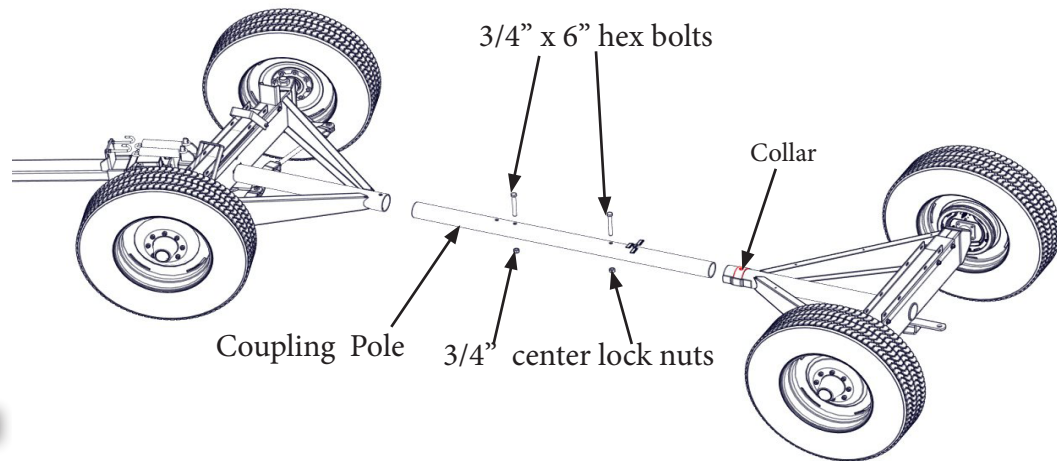

Fig. 1
- Using (4) 3/8" x 1" SF bolts and nuts, attach the Center Divider Board to the center of the Gravity Wagon.
- Attach the Divider Board Mounting Brackets to the Center Divider Board using (4) 3/8" x 1" SF bolts and nuts.
- Attach one of the long sideboards to the left side of the Wagon using (4) 3/8" x 1" SF bolts and SF nuts. Repeat for the right side. Now using (2) 3/8" x 1" SF bolts and SF nuts attach the front and rear sideboards.
- Attach the Center Divider Board to the left and right side boards using (4) 3/8" x 1" SF bolts, (4) 1/2" x 2-1/4" Flat Washers, and (4) 3/8" SF nuts. (Figure 1)
- Using (2) 1/2" x 6" J-bolts and (4) 1/2" hex nuts install the Reinforcing Chain Assembly.
- Attach the Center Sidebrace to the left and right side boards using (4) 3/8" x 1" SF bolts, (4) 1/2" x 2-1/4" Flat Washers, and (4) 3/8" SF nuts. (Figure 1)
- Slide the coupling pole into the front and back assemblies, slipping the collar in the back assembly. The distance between the holes of the Front and Rear Running Gears should be approximately 24". (Figure 1)
- Insert (2) 3/4" x 6" hex bolts and 3/4" center lock nuts in to the Coupling Pole.